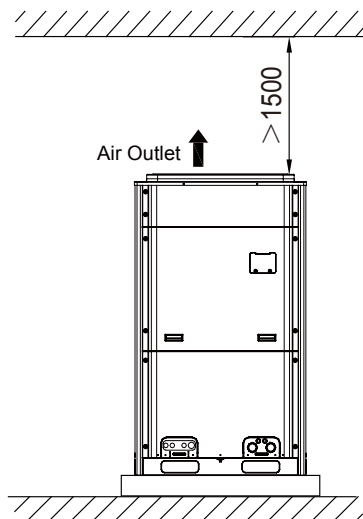
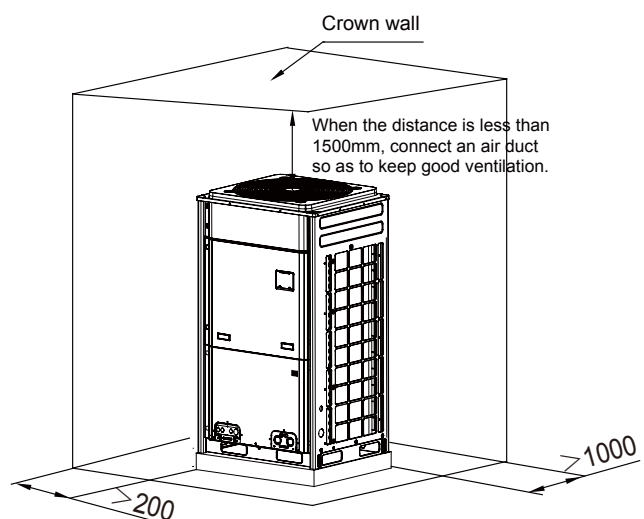

Fig.7
Fig.8
3.2.2 When there is wall (or similar obstruction) above the unit, keep the distance between the unit top and the wall at least 300mm or above. When the unit is located in a totally open space with no obstructions in four directions, keep the distance between the unit top and wall at least 1500mm or above (See Fig.7). When space is limited within 1500mm or the unit is not set in an open space, air return pipe is required to be installed in order to keep good ventilation (See Fig.8).